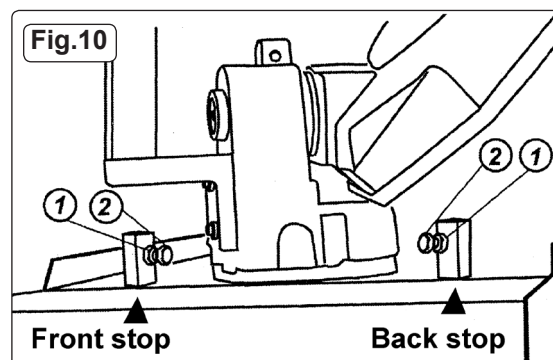

Fig.10
**4.6 ADJUSTING THE BOW PIVOT TRAVEL LIMITS (See Fig.10)**
4.6.2 The front stop seen in Fig.10 should be used to check that the blade is at 90° to the vice. Place a small set square between the blade and the fixed face of the vice. Loosen the hex nut '1' and wind the bolt '2' in or out until 90° is achieved. Tighten the hex nut '1'. Lock the main pivot by moving the lever to position 'B'.
4.6.3 The back stop seen in Fig.10 limits the rotation of the bow to 60°. This is factory set and would not normally need adjusting. Do not allow the bow to pivot beyond 60°.